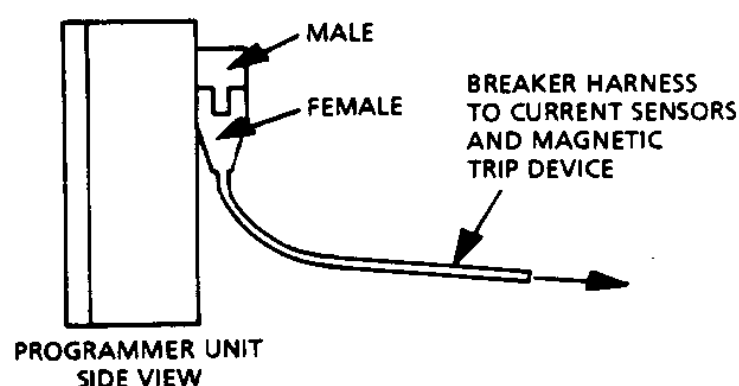

Fig. 2. Normal In Service breaker connection
**CAUTION:** NEVER DISENGAGE THE HARNESS CONNECTOR FROM THE PROGRAMMER UNIT ON A BREAKER THAT IS ENERGIZED AND CARRYING LOAD CURRENT. THIS WILL OPEN-CIRCUIT THE CURRENT SENSORS, ALLOWING DANGEROUS AND DAMAGING VOLTAGES TO DEVELOP. SEE FIG. 2.